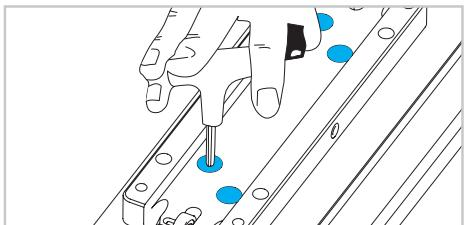

Fig. 7
- 7) Remove the top carriage in order to have access to the inner part. Untight the screws and lift the part which has been released (Fig.7).